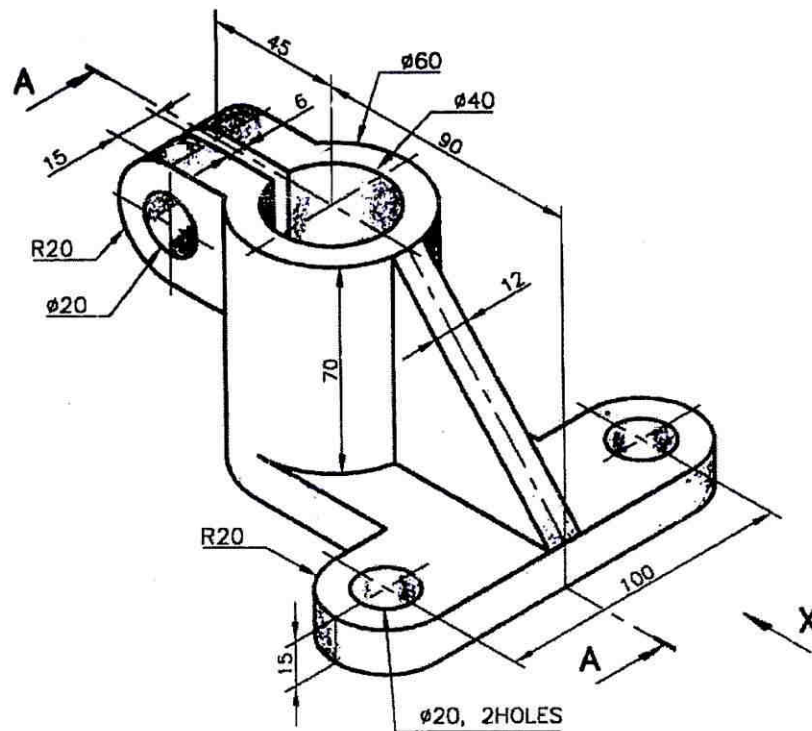

Fig No. 1 C.I. Bracket
5. The following Fig No. 1 shows a cast iron bracket. By using first angle projection method draw : [13]